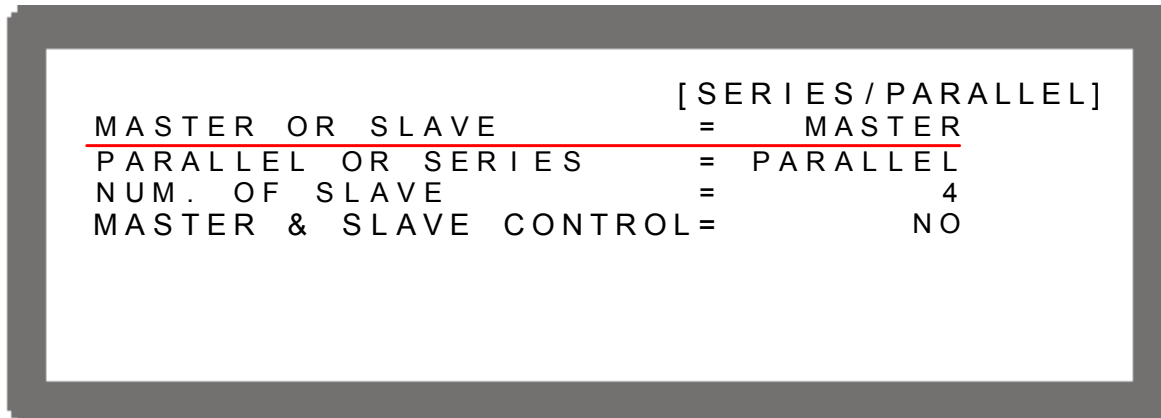

Figure 3-38
1. In Config Setup page, press “**3**” and “**ENTER**” to select PARALLEL /SERIES and display Figure 3-38.